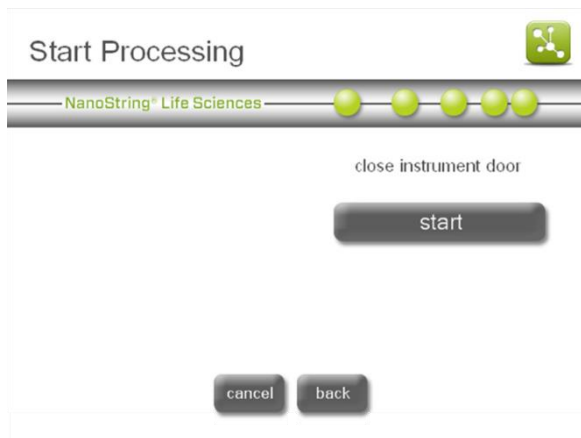

Figure 134: The 'Start Processing' screen.
6. The 'Start Processing' screen will appear (**Figure 134**). Press **start** to initiate the protocol. Refer to Operating the Prep Station for further instructions.